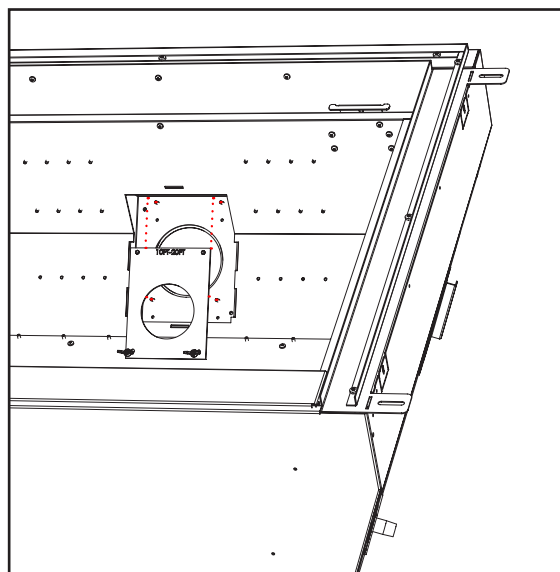

Figure 26c.
Wingnuts are to be used on the bolts that protrude from the bottom of the plate. seen in figure 26c.
Step 6. Fasten wingnuts to the bottom bolts only. Fig.26c